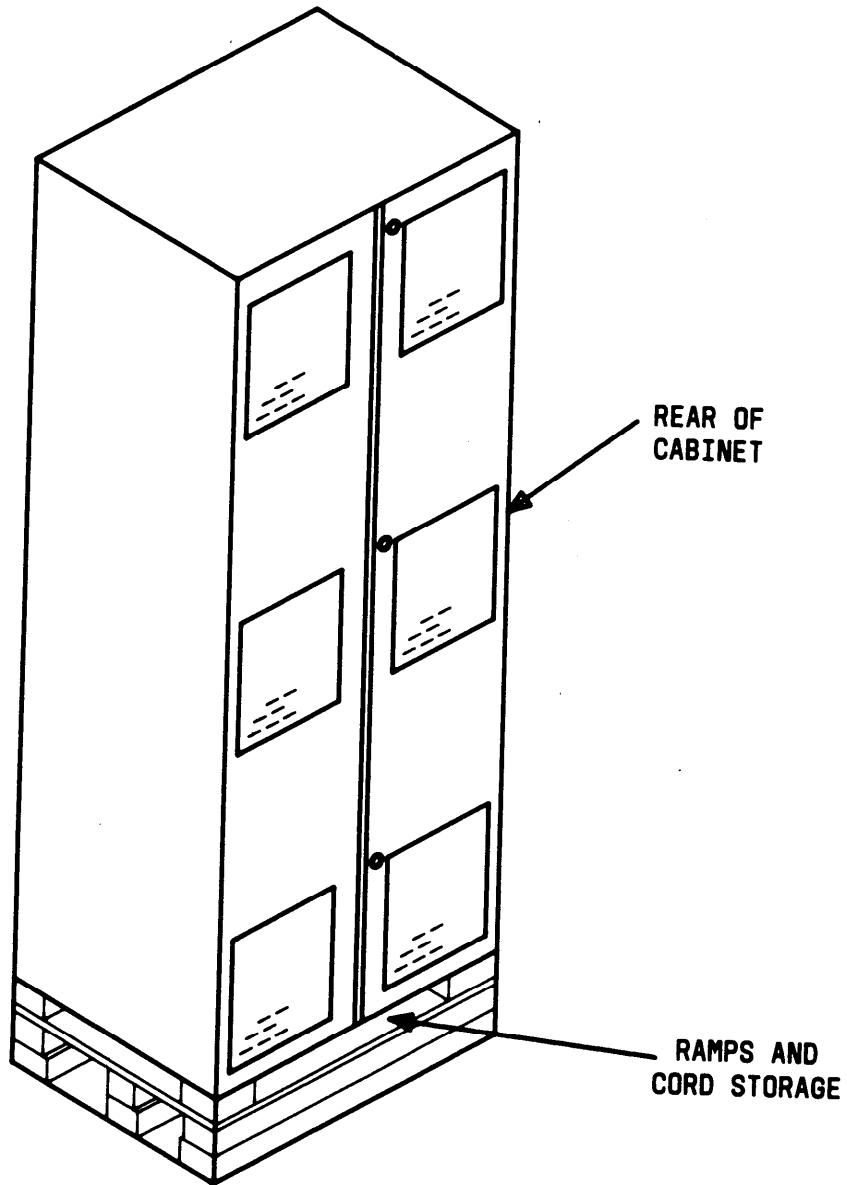

Figure 15. Pallet-Mounted System 75
10. Remove the ramps that are stored under the cabinet (see Figure 15).